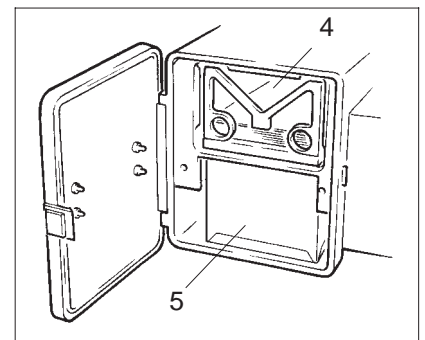

Fig. 4-10: Loading the sheet-film camera
- Slide magazine (4) into open camera at top (Fig. 4-10).
- Slide collector (5) into camera at bottom.
- Open camera and take out receiver (4, Fig. 4-10).